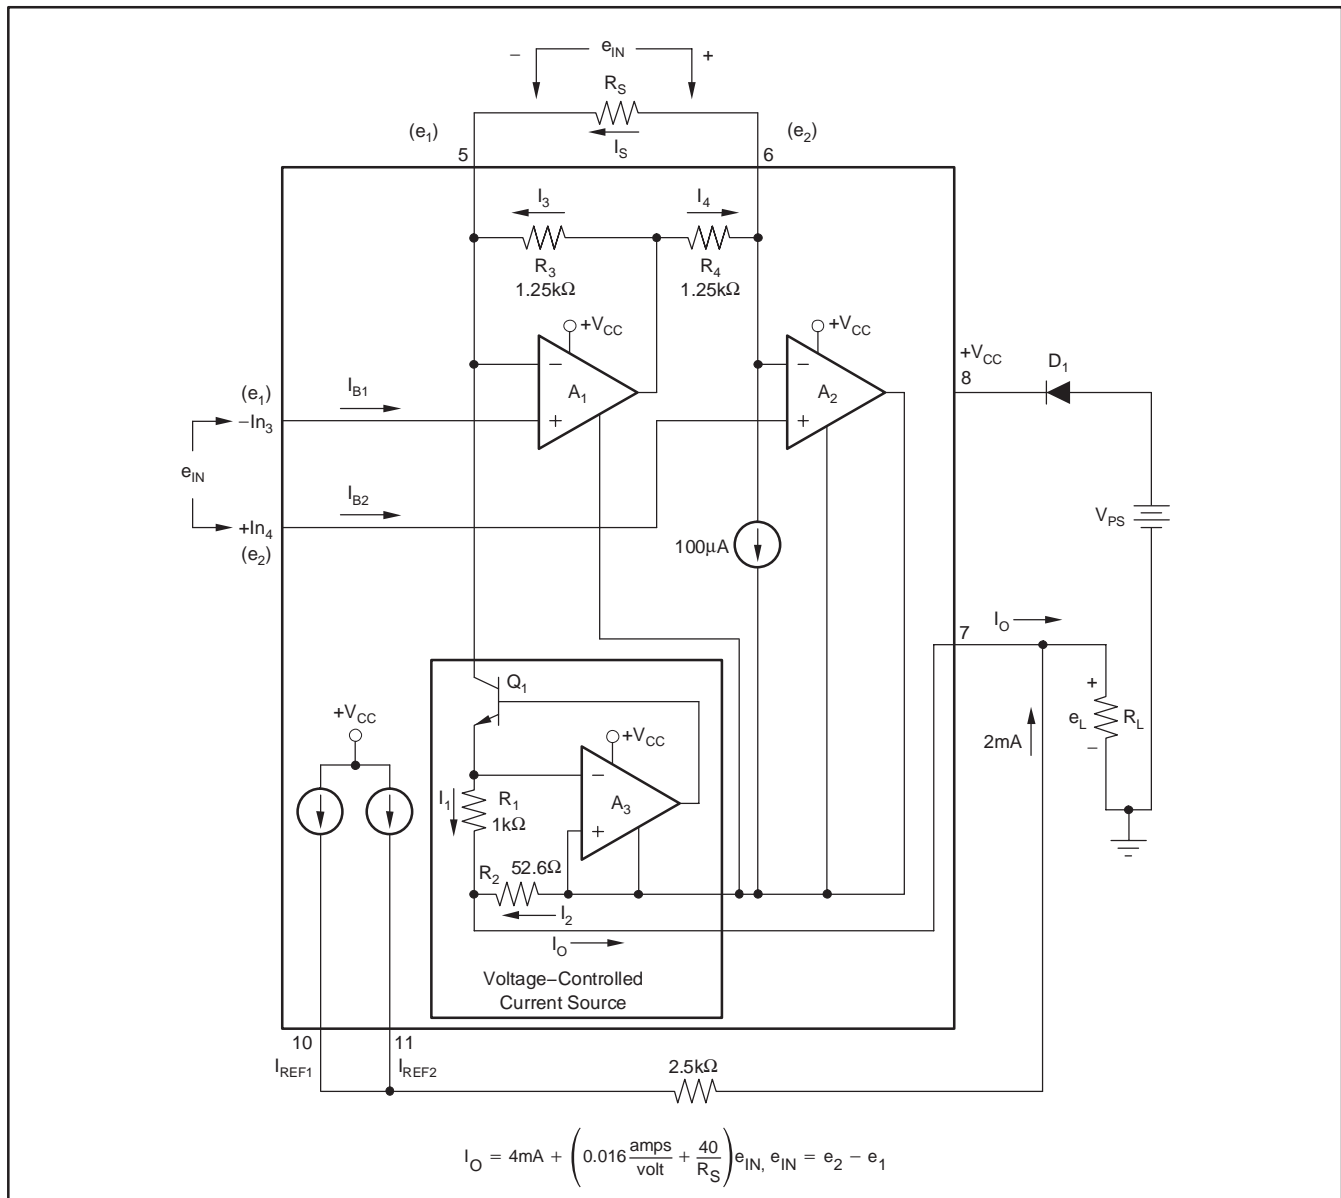

Figure 1. Simplified Schematic of the XTR101
A simplified schematic of the XTR101 is shown in Figure 1. Basically, the amplifiers A_1 and A_2 act as a single power-supply instrumentation amplifier controlling a current source, A_3 and Q_1 . Operation is determined by an internal feedback loop. e_1 applied to pin 3 will also appear at pin 5, and similarly, e_2 will appear at pin 6. Therefore, the current in R_S (the span setting resistor) will be $I_S = (e_2 - e_1)/R_S = e_{IN}/R_S$. This current combines with the current I_3 to form I_1 . The circuit is configured such that I_2 is 19 times I_1 . From this point, the derivation of the transfer function is straightforward but lengthy. The result is shown in Figure 1.
7. It is recommended that a reverse polarity protection diode (D_1 in Figure 1) be used. This will prevent damage to the XTR101 caused by a momentary (such as a transient) or long-term application of the wrong polarity of voltage between pins 7 and 8.